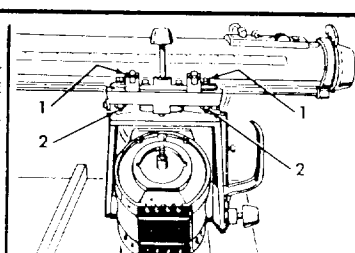

Figure 24
4. Loosen nuts (2, figure 24) one or two turns.
5. Turn adjusting screws (1) a partial turn left or right as required to take up looseness.